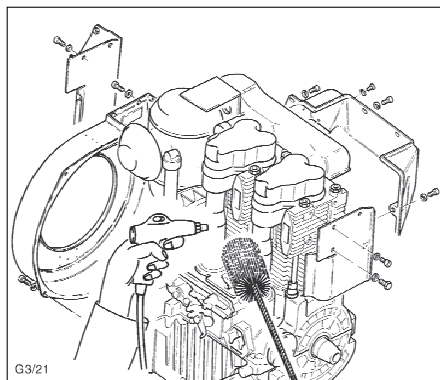

Fig. 21
- Measure valve clearance with 0.10 mm feeler gauge "5" (fig. 21, chap. 3.1.).
- If adjustment is necessary, slacken off hex nut "6", turn adjusting screw "7" and retighten nut "6". It should then be possible to pull feeler gauge "5" through with just perceptible resistance to movement (fig. 21).